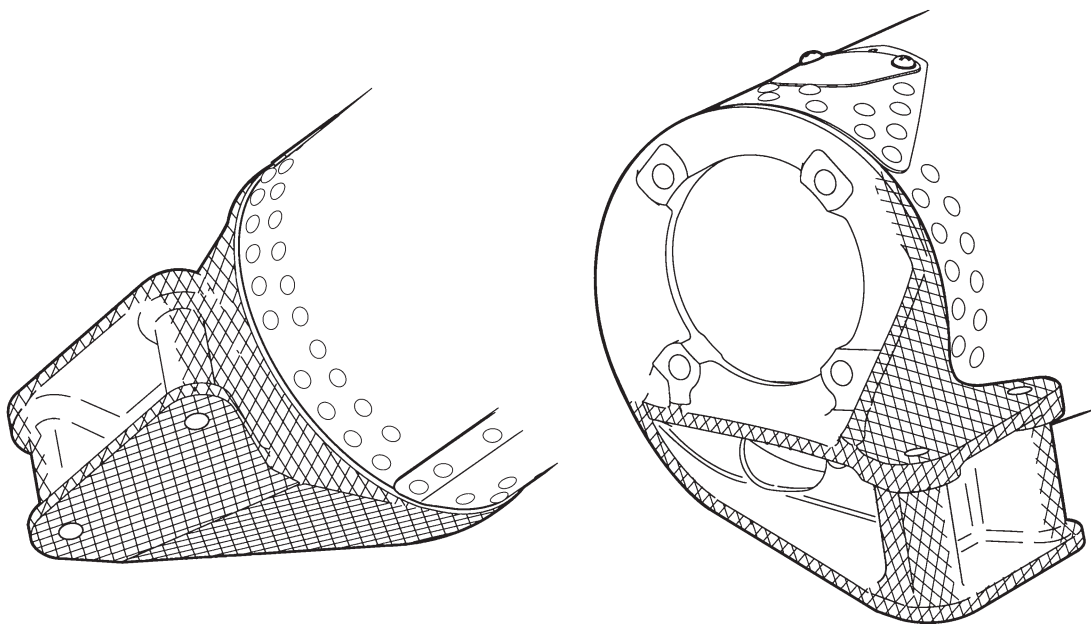

FIGURE 2-18 PENETRANT INSPECT CROSS-HATCHED SURFACES OF C148 BULKHEAD
1. On associated tailcone's C148 bulkhead, strip paint from cross-hatched surfaces shown in Figure 2-18 using § 23-71 approved materials.